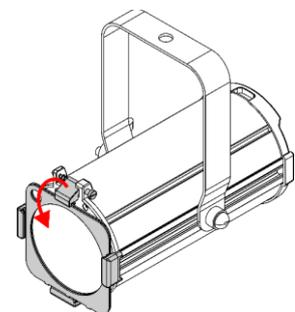

Fig. 12
- 04) Pull the **color frame clip (02)** downwards to release the **spring-loaded screw (01)** (see Fig. 12). The color frame will be locked in position.